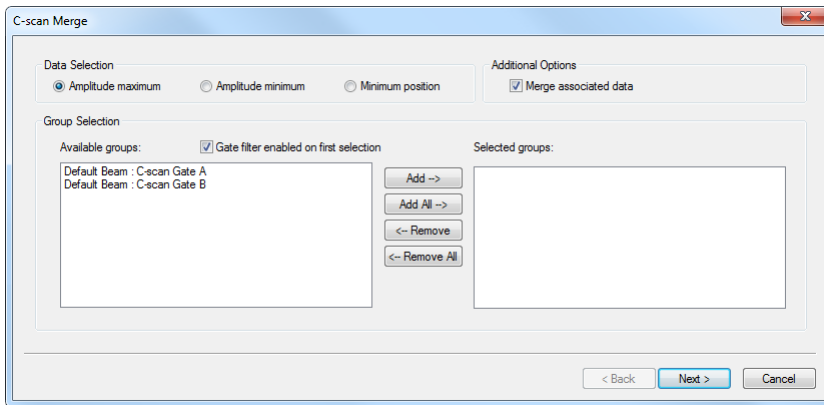

Figure 7-26 Example of the C-Scan Merge dialog box (first step)
3. In the **C-Scan Merge** dialog box (see Figure 7-26 on page 366):